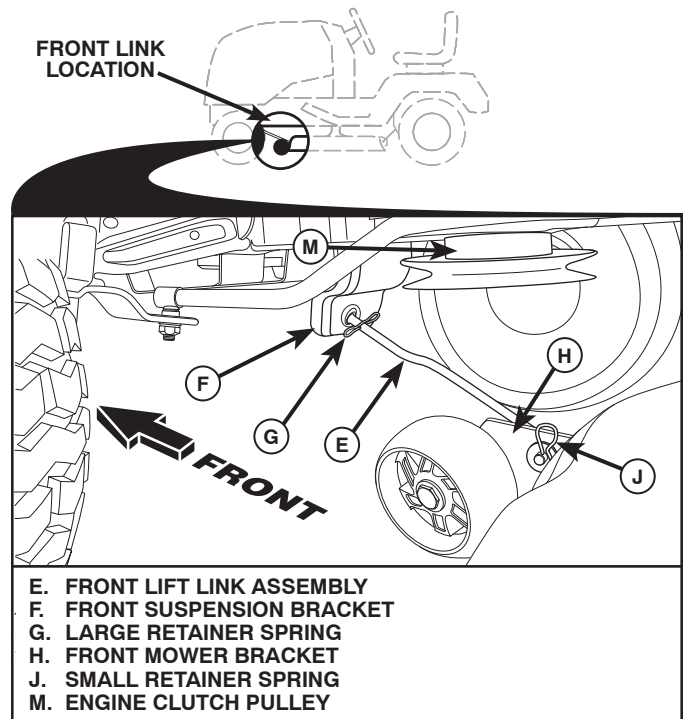

Fig. 31
8 ATTACH FRONT LINK (E) (See Fig. 31)
- From front of tractor, insert rod end of front link (E) through front hole in tractor front suspension bracket (F).
- Move to left side of mower and insert large retainer spring (G) through hole in front link (E) behind front suspension bracket (F).
- Insert other end of link (E) into hole in front mower bracket (H) and secure with washer and small retainer spring (J).